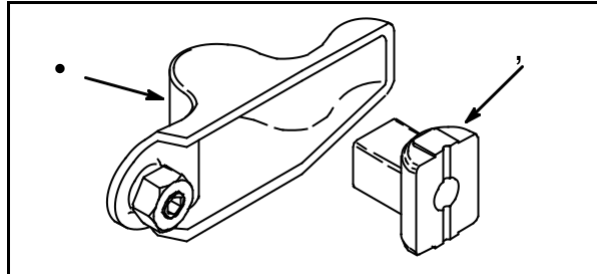

Fig. 2
Style 3: (Current) Engines manufactured after date code 960331xx are equipped with a redesigned cylinder head, and stamped steel rocker arms (1), **Fig. 2**, with a separate rocker arm support (2) for